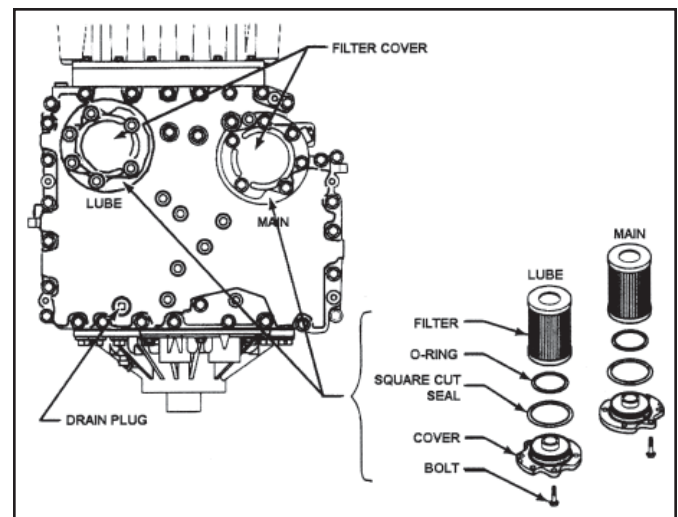

Figure 2 - Location of Filters for Service
- Remove twelve bolts, two filter covers, two O-rings, two square cut seals, and two filters from the bottom of the control module (refer to *Figure 2*)